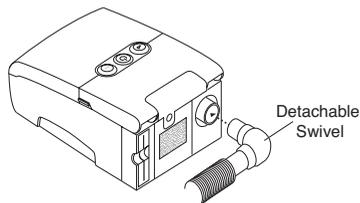

FIGURE 3-2 CONNECTING THE FLEXIBLE TUBING
1. Connect the flexible tubing to the air outlet on the back of the device, as shown in Figure 3-2. You can use the optional, detachable swivel that is provided with the device and already attached to the tubing (shown in Figure 3-2), or you can remove the swivel and connect the tubing directly to the air outlet.